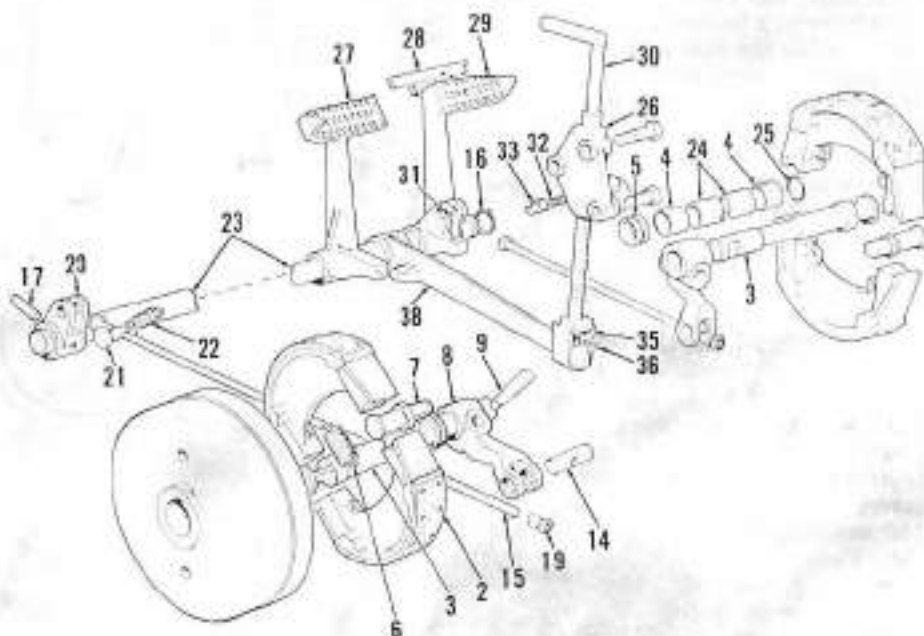

Fig. 140—Exploded view of typical drum brake system.
To adjust brakes, proceed as follows: Jack tractor up until both rear wheels are free to turn. With hand lever in released position and both pedals released, turn the adjusting nut (19-Fig. 140) on one brake rod only until brake starts to bind when turning wheel on that side, then loosen nut until wheel turns freely and tighten locknut. Apply hand lever to a latched position so that the wheel on the side already adjusted can just be turned, then loosen locknut on opposite brake rod and turn adjusting nut on that rod so that same effort is required to turn both rear wheels. Tighten locknut, release hand lever and road-test brakes for satisfactory operation. Adjusting the brake rods provides adjustment for both foot pedals and hand lever.
220. Brake linkage models with drum brakes is shown in Fig. 140. Cross-shaft (23) passes through transmission compartment inside a tube which is sealed at each end by end plate, gasket and